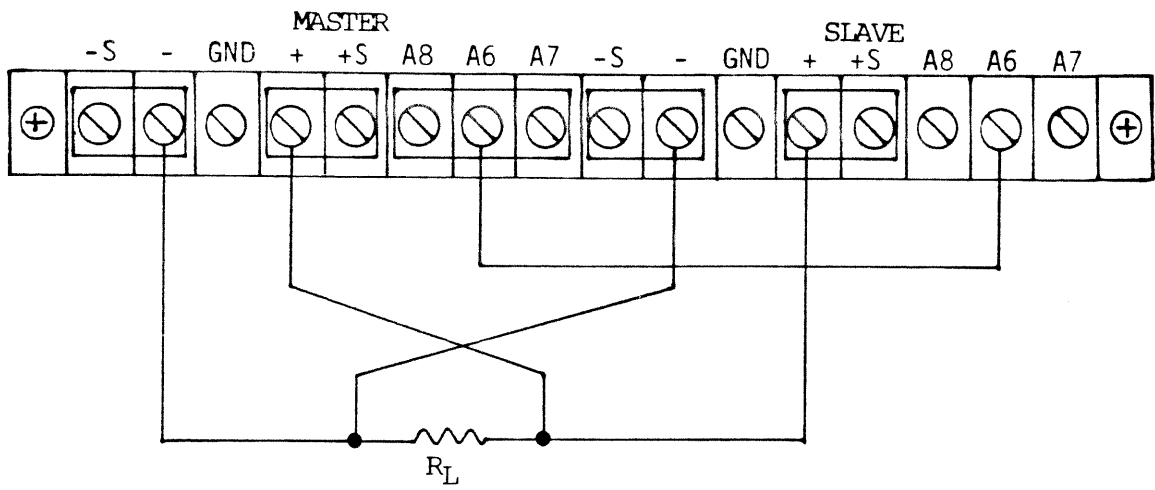

Figure 3-5. Auto-Parallel Stopping
(4) Auto-Parallel Operation. The auto-parallel operation with two or more supplies establishes a master/slave(s) configuration. The output voltage of the slaves(s) is controlled by the master and will automatically track the master. See figure 3-5 for strapping requirements.